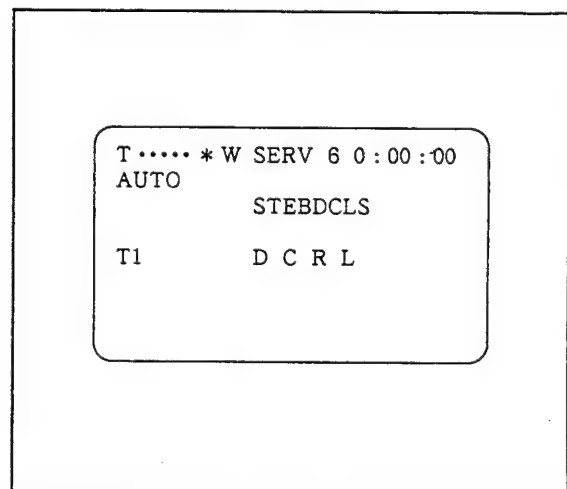

Fig. II-38
- (1) Shortcircuit the points A and C and open the points B and D of the character generator respectively.
- (2) Connect lines to the character generator as shown in Figure II-38. Note: Do not turn the VRs ($\times 2$) in the AF PCB.
- (3) Mix the CG OUT of the character generator with a video signal for connection with the monitoring TV set (by such means as BNC forked connector).
- (4) Connect *1 Pin to RED Pin and *2 Pin to BLACK Pin.
- (5) Place the Siemens Chart at a distance of $2.40\text{m} \pm 3\text{cm}$ from the front of the lens unit.